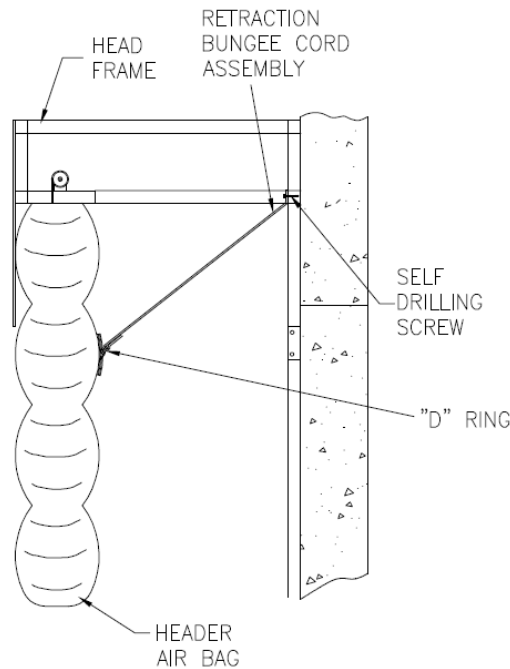

FIG. 12A
c. **Reattach Retraction Bungee Cord Assembly to Head Frame** (Figure 12A).